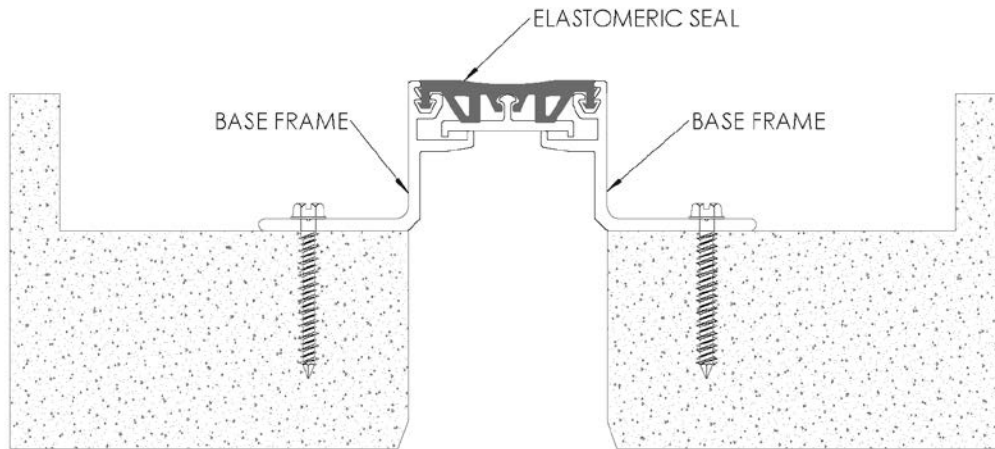

FIGURE 4
4. Position the elastomeric seal into position and push the seal bulbs into the base frame top channels as shown. Make sure the bulbs are seated all the way into the channel. Also, make sure the bottom center channel in the seal is pushed over the protrusion on the slide plate (not required on 1” joint sizes). **See Figure 4**